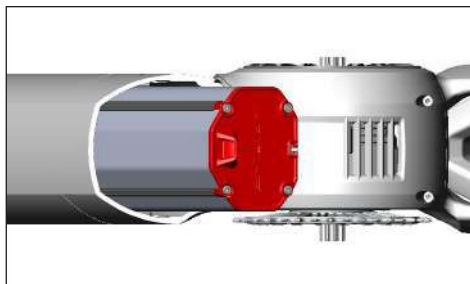

Fig. 15: Inserting the battery into the down tube
- ▶ Insert the battery into the down tube (see Fig. 15).